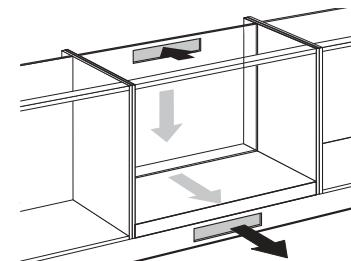

Fig. 8: Ventilation openings
- Saw out the ventilation openings (min. 100 cm2). Ventilation takes place via plinth and rear of cupboard (see figure 8).